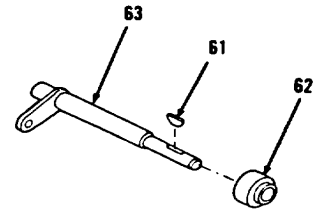
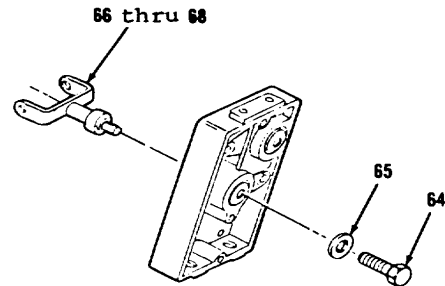

Figure 5-13.
Figure 5-14.
28. Remove key (61) and bearing (62) from shaft (63, Figure 5-13).
29. Remove bolt (64), washer (65) and items 66 thru 68 as an assembly (Figure 5-14).
4. Install items 68 thru 66 as an assembly (Figure 5-14).
5. Install washer (65) and bolt (64). Tighten bolt (64) to 25 ft-lb torque.
6. Install bearing (62) and key (61) on shaft (63, Figure 5-13).